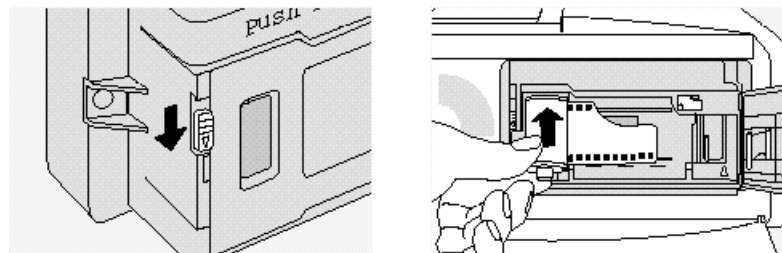

Figure 2- 10. Opening the door and inserting the film cassette
2. Insert the film cassette at an angle into the chamber as shown in Figure 2- 10 (right panel). The pin in the chamber fits into the hole on the bottom of the cassette. Push it all the way in, so that the film lies flat in the track. When loading Polaroid Polachrome film, remember that the emulsion (dull side) faces away from the lens. This is different from conventional film, in which the emulsion faces the lens.